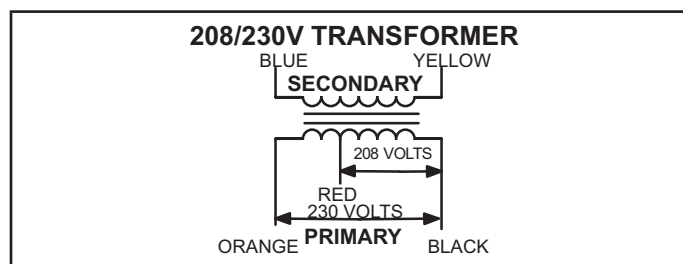

FIGURE 2
All models use a single line voltage to 24VAC transformer mounted in the control box. Transformer T1 supplies power to control circuits in the unit. The transformer is rated at 90VA and is protected by a 6.0 amp circuit breaker (CB8). CB8 is internal to the transformer. The 208/230 (Y) voltage transformers use two primary voltage taps as shown in FIGURE 2, while 460 (G) and 575 (J) voltage transformers use a single primary voltage tap.